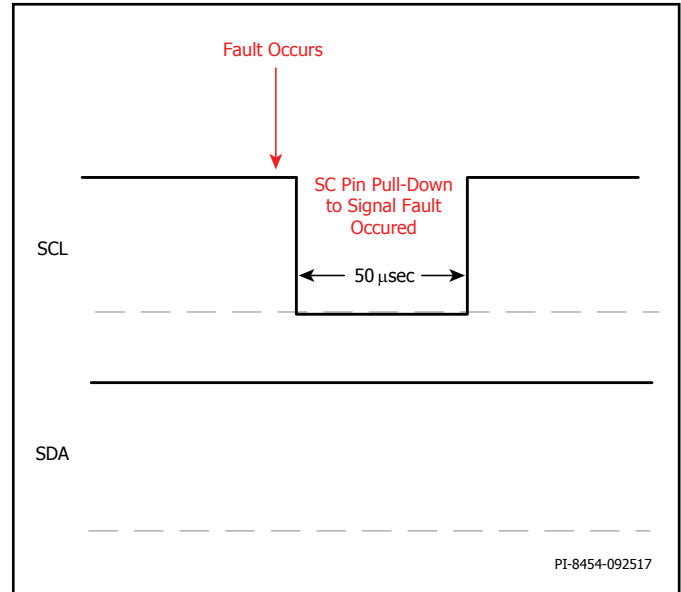

Figure 19. Interrupt Mask During Idle I2C.
1. When the SCL pin is in idle mode (see Figure 19), the fault interrupt will happen as soon as the fault is detected. The interrupt pulls down the SCL pin for 50 μsec then releases it back to HI State.